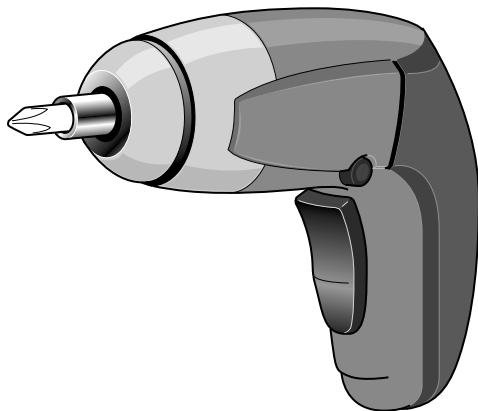

Fig. 9
Fig. 9 shows a cordless screwdriver.
- (a) Give **four** justified design requirements for a cordless screwdriver of the type shown in Fig. 9.
- (b) Describe **two** examples where anthropometric data would have been used in the design of the cordless screwdriver shown in Fig. 9.
- (e) (i) State a **suitable specific type of battery** for use in the cordless screwdriver shown in Fig. 9.
- (ii) Draw an annotated diagram of a suitable gear system for the cordless screwdriver shown in Fig. 9, to reduce the speed of the motor from 6000rpm to an output speed of 250rpm.